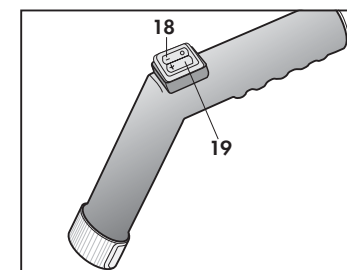

Fig. 10
c) Approximately 2 minutes after the heating process has been activated in the boiler, press the steam or red button (18) provided on the handle (fig. 10) and bleed for about 10 seconds any air or condensation that may have formed in the boiler.
d) When the green light (E) comes on, the generator will be ready for use.